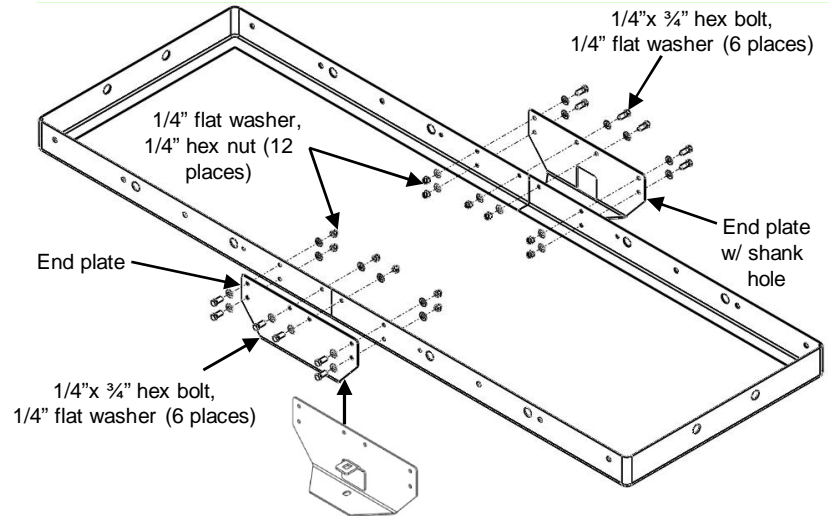

FIGURE 1.
- Align both halves of the basket on the ground, attach each end plate to the outside of the basket as shown in Fig 1 and fasten loosely with (12) 1/4" bolts, (24) 1/4" flat washers, and (12) 1/4" hex nuts.